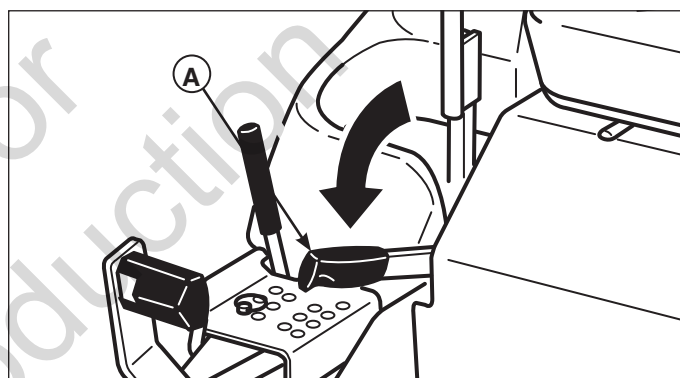

Figure 2. Disengaging the Parking Brake
4. Push down on parking brake lever (A, Figure 2) to release parking brake.